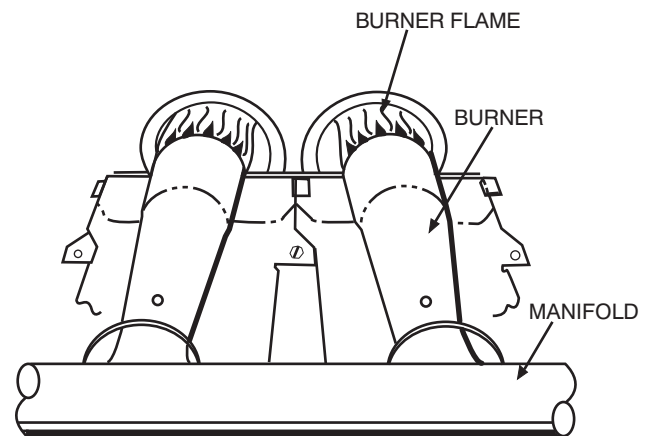

Fig. 8 – Monoport Burner
1. Inspection of all flue product passages—including the burners, heat exchanger, and flue collector box. Make sure the burner flames are blue in color and in proper adjustment. Refer to Fig. 8 for burner flame.